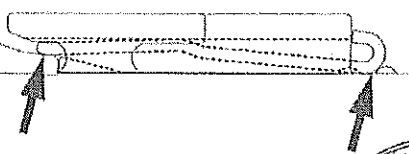

Fig. 24-Correct position of iFAST spring
4. Check the position of the spring, Fig. 24. The toe of the iFAST spring has to be on the stock rail foot, the rear end needs to be secured by the embossment.